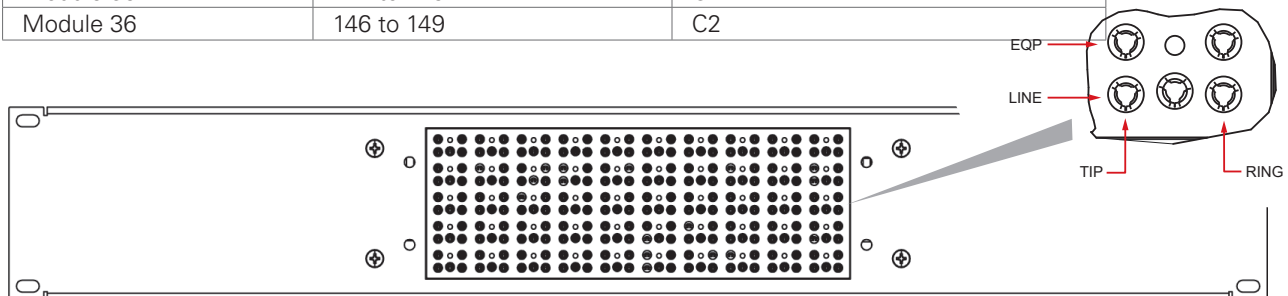

Figure 16: 50-pair protector panel
8. Use a voltmeter to check there is approximately 380 Vdc across the Tip (T) and Ring (R) receptacles of circuits 1 to 4 on the protector panel. See Figure 16.